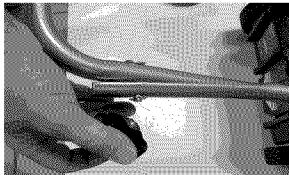

Figure 3 - Thread on Handle Knobs
2. Place star-washer onto connector bolt and thread on the handle knobs (see Figure 3). Hand-tighten handle knobs securely.